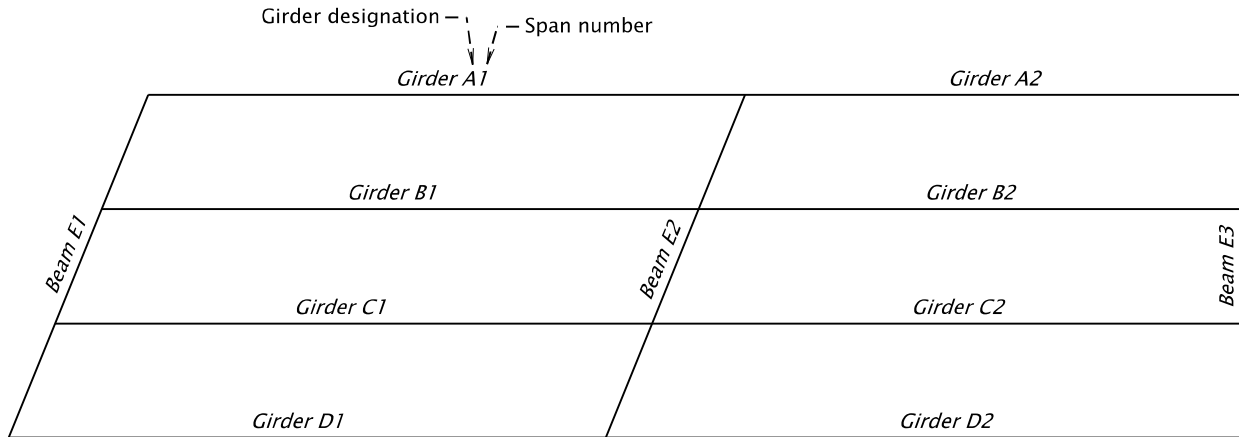

Figure 7.5A
- Girders usually identified by a single letter and a span number for the girders that are not identical. See Figure 7.5A